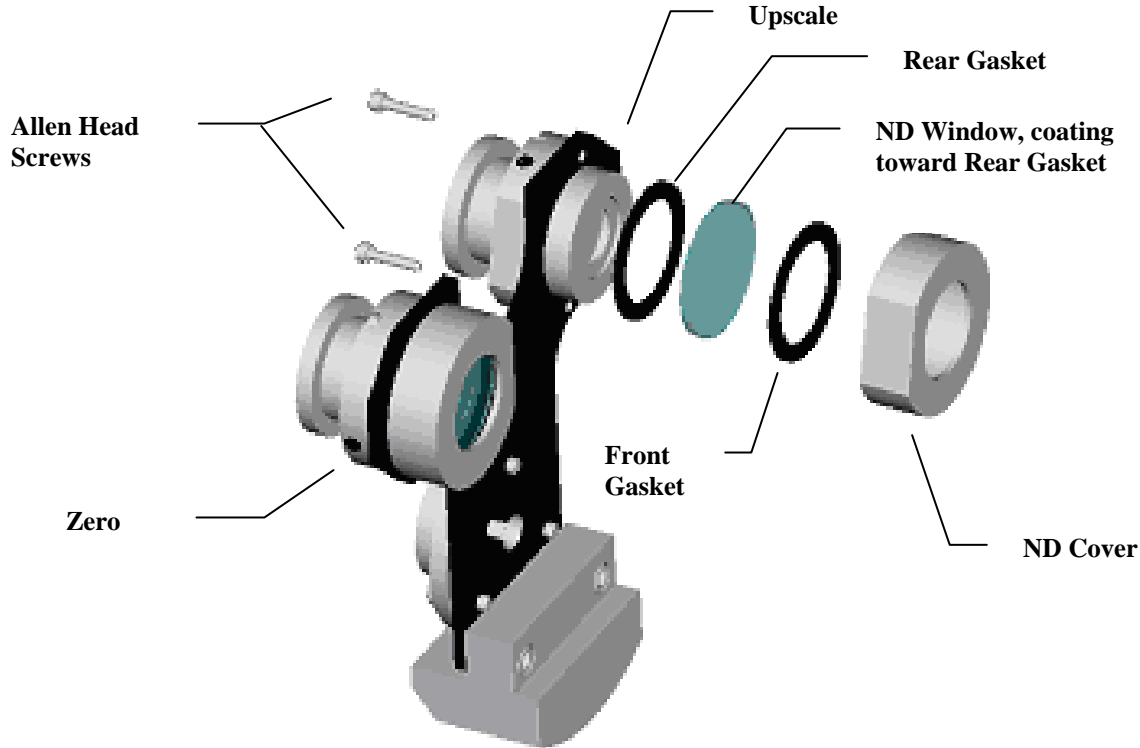

Figure 8-7
2. Remove the 2 Allen head screws holding the ND cover on the appropriate Iris. See Figure 8-7.
3. Remove the ND cover, front gasket, ND window and rear gasket. See Figure 8-7.
4. Re-assemble the rear gasket, new ND window, front gasket and ND cover as shown in Figure 8-7. **Note: The ND window must be installed with the coating side IN toward the rear gasket.**